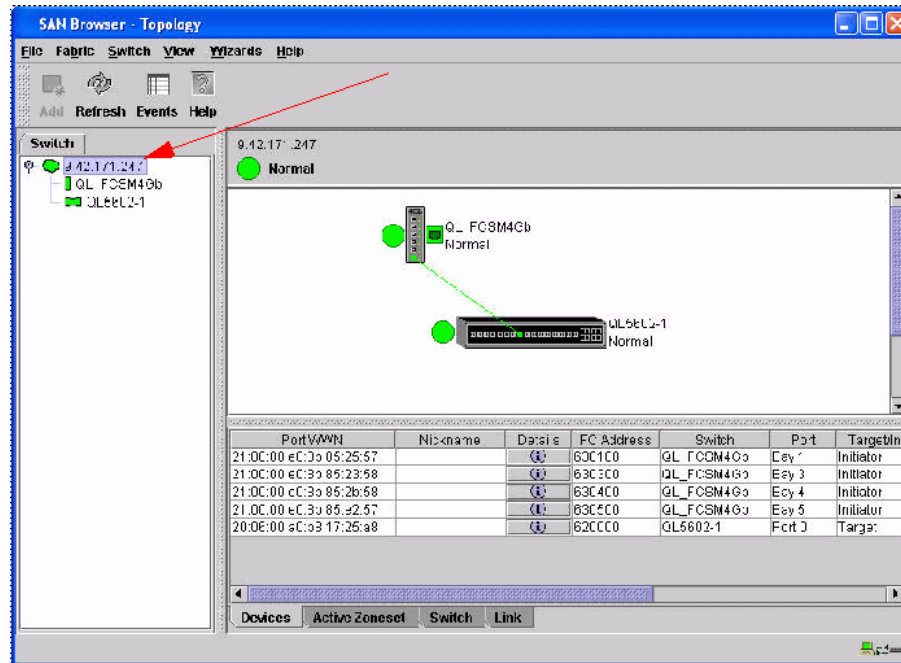

Figure 7-19 SAN Browser Topology window
9. Verify the E-Port (ISL) connection was successful. In the left panel, select the IP Address to obtain the Topology view window (Figure 7-19). Verify that both switches in the Topology viewing pane are visible. Optionally, you can telnet into the switch and type the command `show fabric` and verify that you can see both switches.